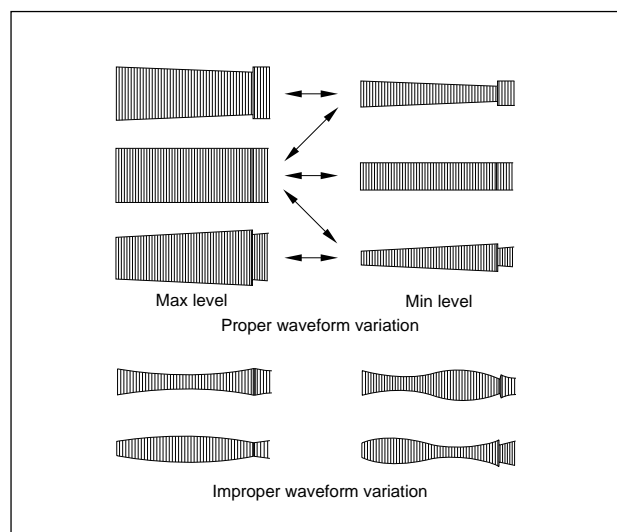

Fig. 2-3-1a
- (1) Play back the alignment tape (A1).
- (2) Apply the external trigger signal to D,FF (E), to observe the V.PB FM waveform at the measuring point (D).
- (3) Press the channel buttons (+, -) simultaneously to enter the manual tracking mode. This also brings tracking to the center (centre).
- (4) Make sure that there is no significant level drop of the V.PB FM waveform caused by the tracking operation, with its generally parallel and linear variation ensured. Perform the following adjustments when required. (See Fig. 2-3-1a.)